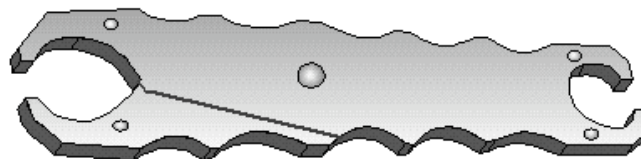

Figure 3-13.—Fuse puller.
- After first making certain that the circuit is dead, use a fuse puller (figure 3-13) to remove cartridge fuses.